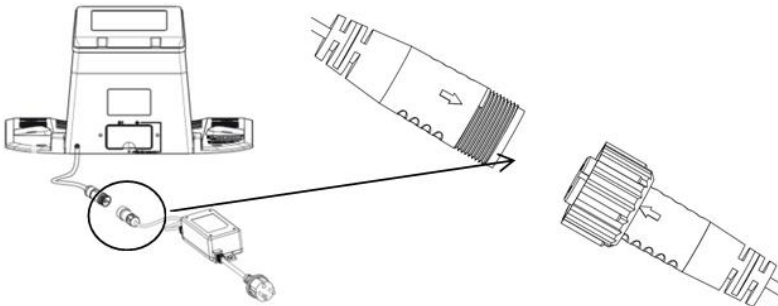

Fig. 20A Fig. 20B
6. Connect the charger to the charging station. Align the arrow on the power cable connector of the charging station with the arrow on the charger connector, insert the connector into each other, and then tighten the nut (Fig.20A/Fig.20B).